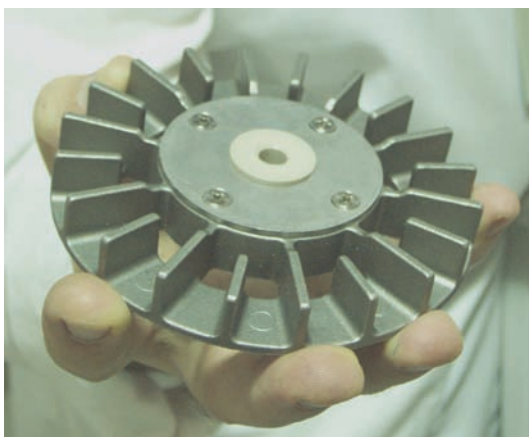

Figure 167: Stirrer handling—correct (left) and incorrect (right)
- Inspect the stirrer (3). If soiled, lift it out of the retort and clean with a 70% alcohol solution. To replace the stirrer, hold it as indicated in Figure 167 and carefully allow it to slide onto the spindle in the bottom of the retort.